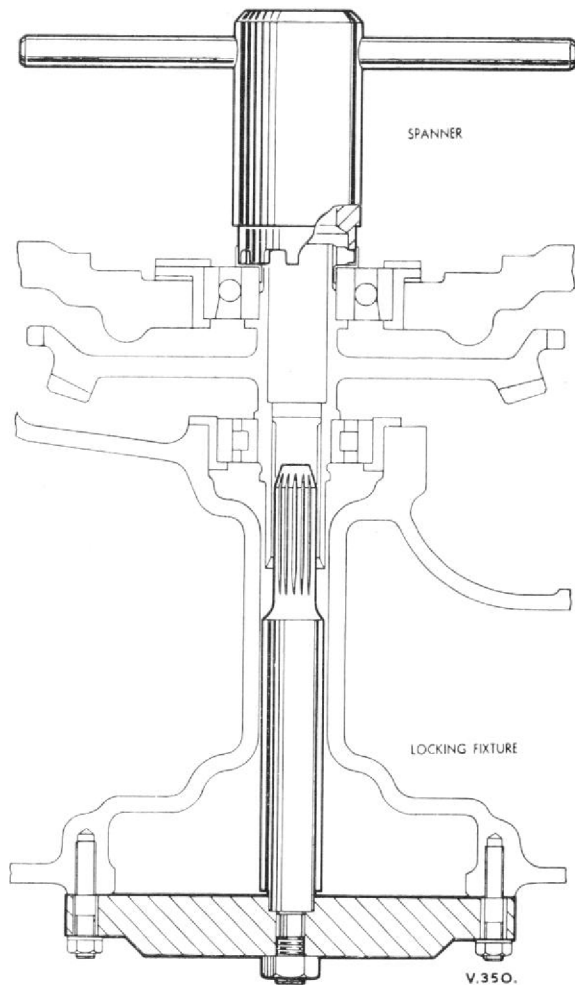

Fig. 4. Locking fixture T.77177 and spanner T.71775 for loosening ring nut on fuel pump driving gear.
2. Pass the serrated end of the mandrel forming part of locking fixture T.77177, through the fuel pump face orifice and locate the external serrations of the mandrel in the internal serrations of the hydraulic pump gear, as illustrated in Fig. 4.